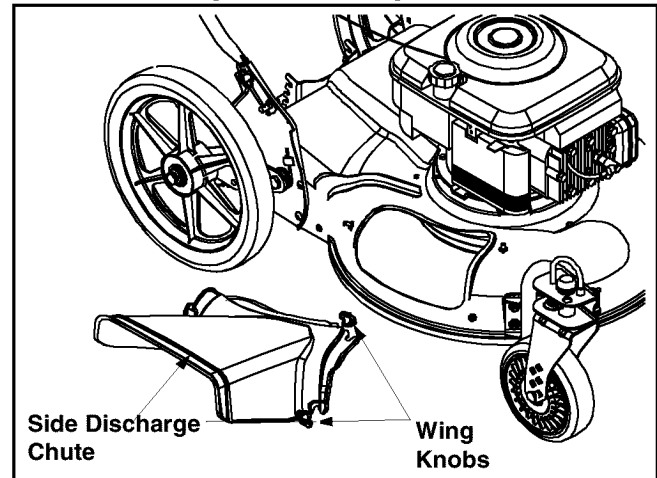

Figure 13
- Attach side discharge chute to unit and secure with the three wing knobs. See Figure 13.